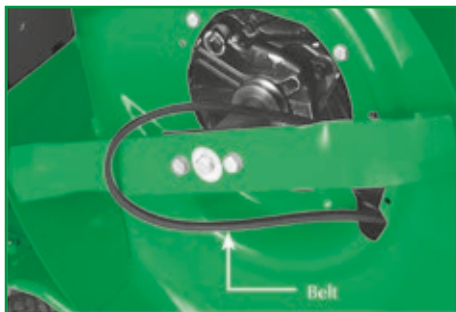

Figure 5
- ✓ To remove the belt from the rear pulley, slide the belt over the blade end (Fig. 5).